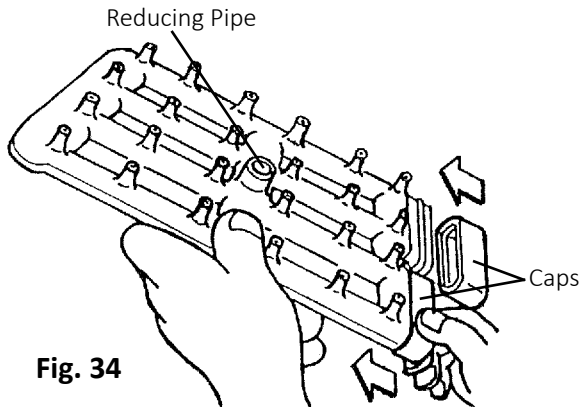

Fig. 34
11. Refit the 2 caps in their correct positions. Make sure the reducing pipe is in place in the center. See Fig. 34.